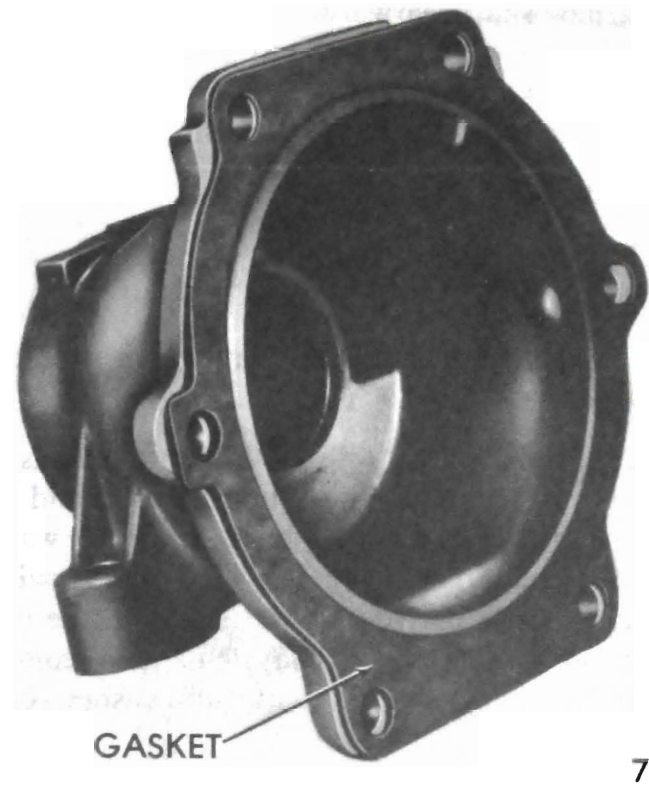

Figure 76-83
3. Remove extension housing and extension housing to case gasket. See Figure 76-83.